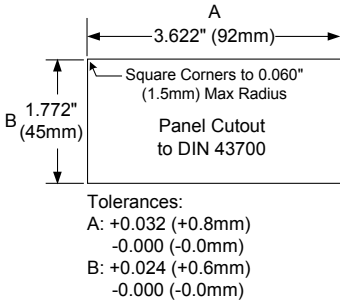

Figure 1. 1/8 DIN Panel Cutout Dimensions
- Prepare a standard 1/8 DIN panel cutout - 3.622" x 1.772" (92 mm x 45 mm). Refer to Figure 1. 1/8 DIN Panel Cutout Dimensions below for more details.